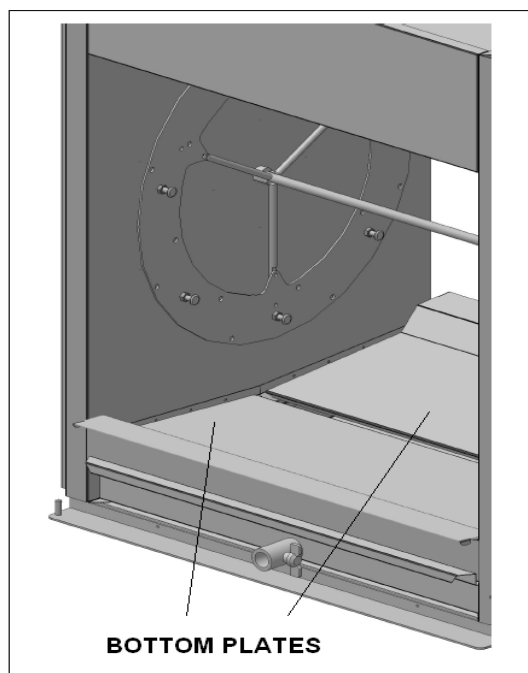

Figure 2.2
- Place the bottom plates in the grilling compartment (see figure 2.2).